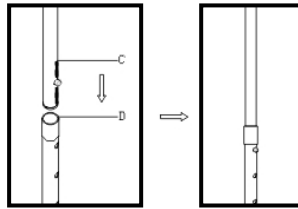

Fig. 2
2. To assemble the garment rod, insert one of the extensions into the other by depressing the button on the extension (marked C) so that you can insert into the other extension (marked D). Turn the extension until the button comes out of the opening and you hear a click. Repeat procedure for the other extension. (See fig. 2)